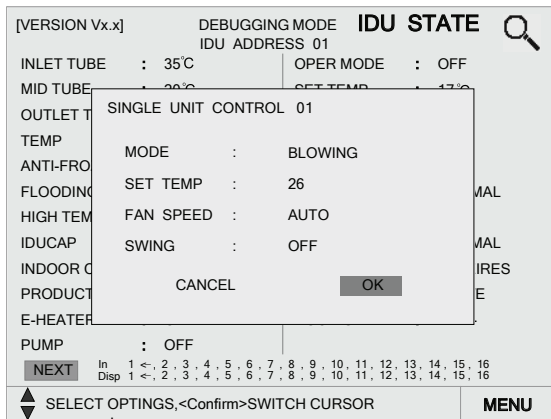

Fig.4-3 SINGLE UNIT CONTROL Page
**Step 3:** Press **Confirm** button to enter **SINGLE UNIT CONTROL** (Fig.4-3). The cursor is defaulted to indicate the **Confirm** button and then repress the **Confirm** button to execute the control.